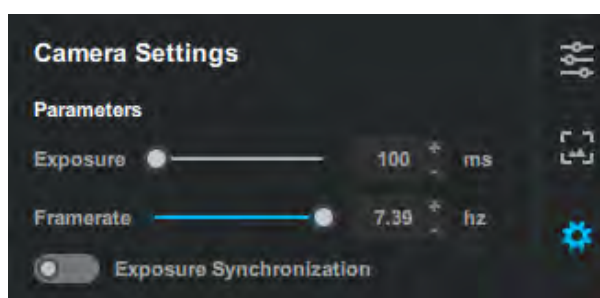

Figure 11.13.1: Figure: IRM camera settings panel in BlueLake.
3. Configure the IRM camera using the settings in the right toolbar and adjust the recording settings in the top toolbar (see Figure 11.13.1).